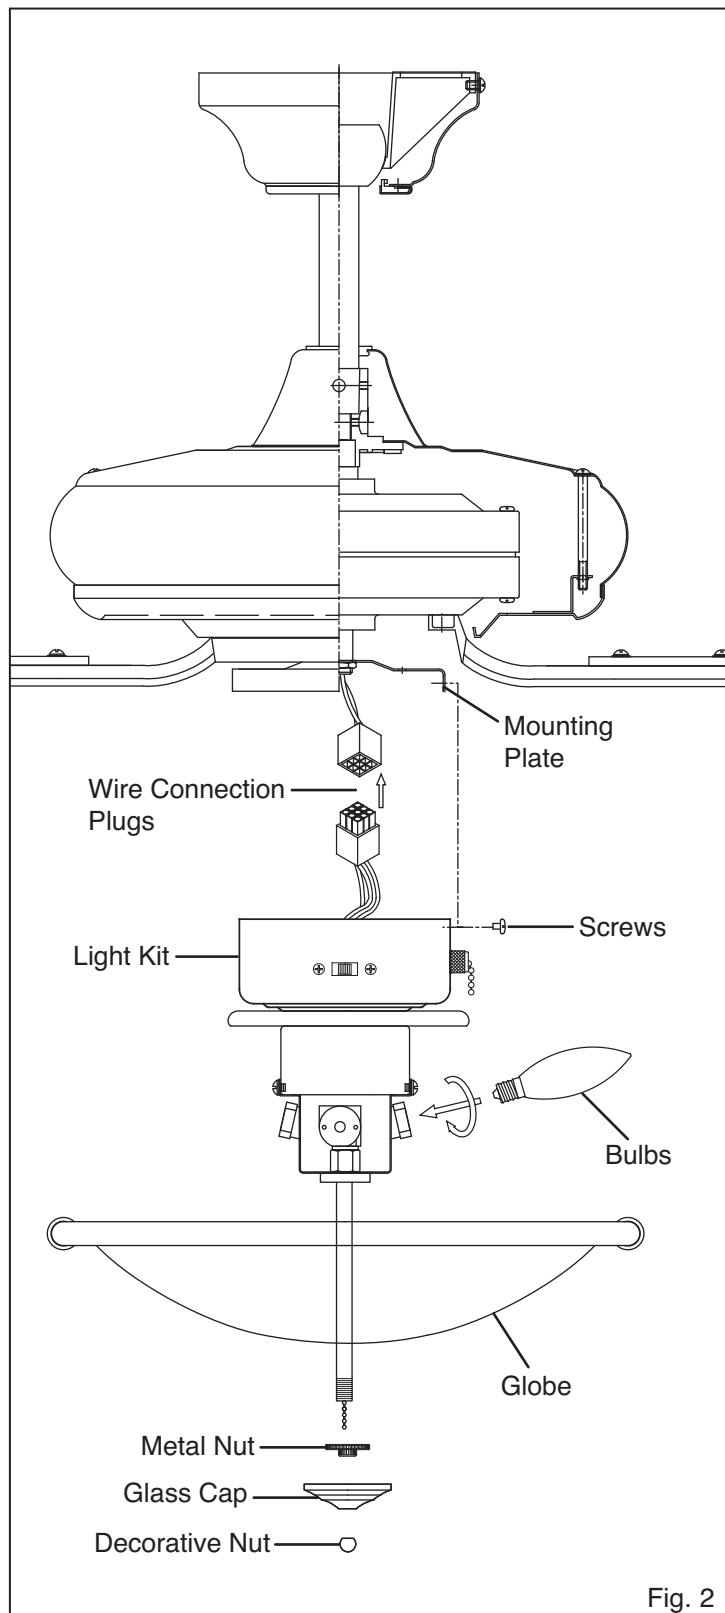

Fig. 2
4. Install 3 x 60W candelabra bulbs (included). (Fig. 2)
5. Remove the metal nut, glass cap and decorative nut from the light kit. Place globe over the light kit stem, secure with the metal nut, glass cap and decorative nut. Do not overtighten. (Fig. 2)